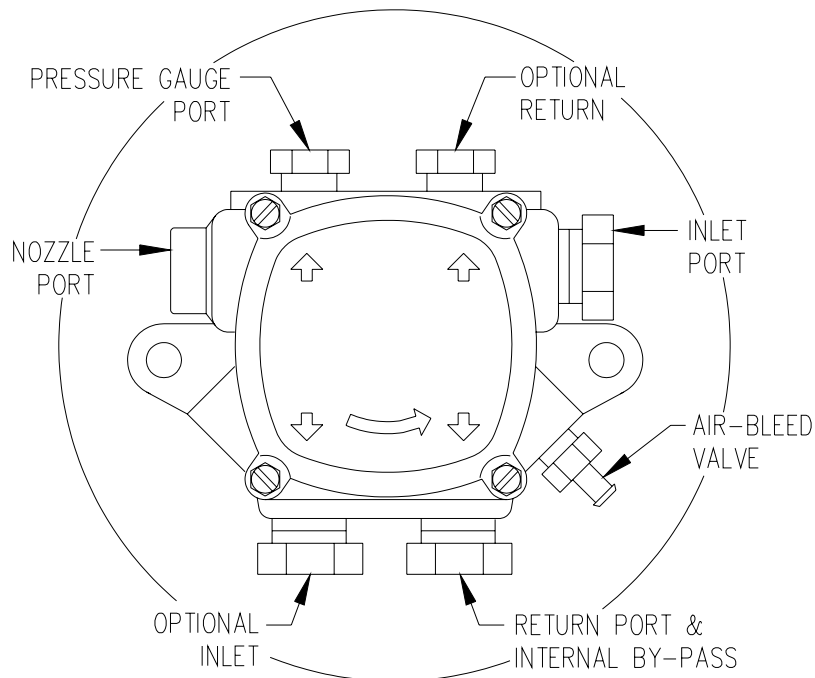

Figure 13: Location of Oil Pump Vent Plug
7. Turn on the electrical power to start the burner. If the burner does not start, immediately reset the manual overload switch on the motor (if so equipped) and the safety switch of the burner primary control. Bleed air from the fuel oil line as soon as the burner motor starts rotating. To bleed the fuel pump, attach a clear plastic hose over the vent plug, refer to Figure 13. Loosen the plug and catch the expelled oil in an empty container. Tighten the plug when all the trapped air appears to be purged. If the burner stops during bleeding, wait three to five minutes for the control safety switch to cool. Then manually reset the switch. Continue bleeding the line until the air is completely removed.